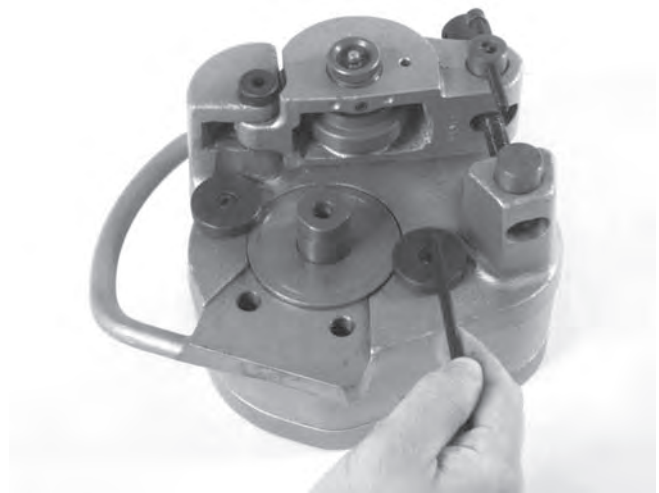

Figure 13 – Installing Stabilizers
8. If installing 8" – 12" Schedule 10 groove set, using a $\frac{3}{16}$ " hex key, remove the 2" – 6" stabilizers and install 8" – 12" stabilizers (*Figure 13*).